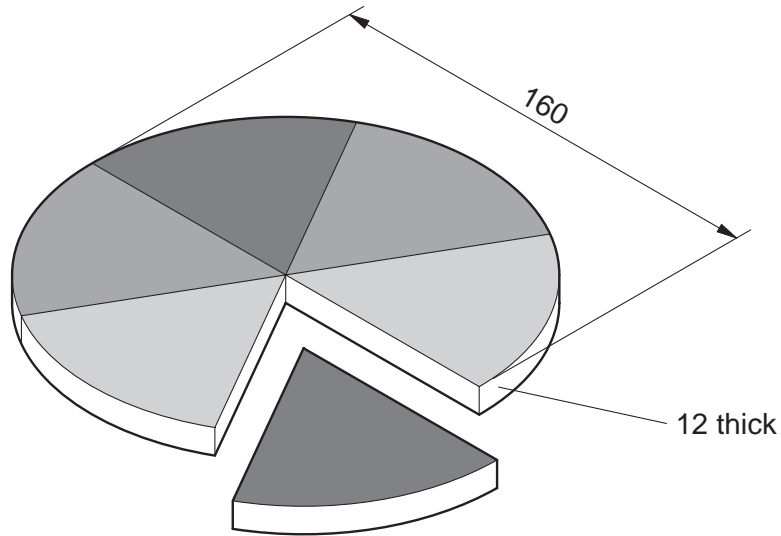

Fig. 1
- 1 Fig. 1 shows a wooden puzzle.